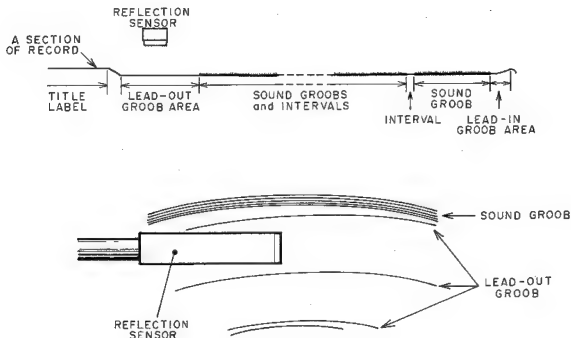

Fig. 26
- 7) Advance the reflection sensor (with tone arm block) over the lead-out groove area by means of the F. FWD button. (Fig. 26)
CAUTION: Turn the record by hand so that the groove will not be directly under the reflection sensor. (Fig. 26)